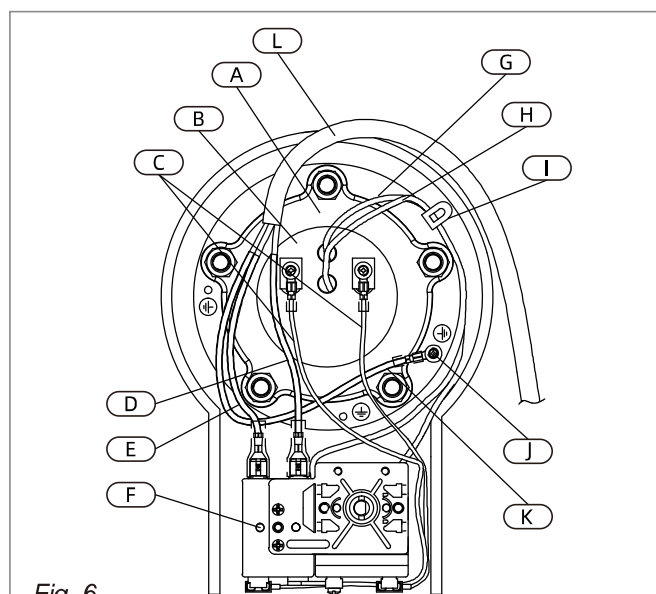

Fig. 6
- Take out the power cord L from the plastic part. (Fig. 6)
- Use a cross screwdriver to unscrew the 3-in-1 cross screw J on the heating element terminals of red wire J and blue wire C. (Fig. 6)
- Remove the wire nail I and press the thermostat capillary G and the thermal cut-out capillary H, and take it out of the blind tube opening. (Fig. 6)
- Loosen the 5 nuts and spring washer on the heating element pressing plate A with the sleeve, and take out the heating element pressing plate A. (Fig. 6)
- Remove heating element B. (Fig. 6)